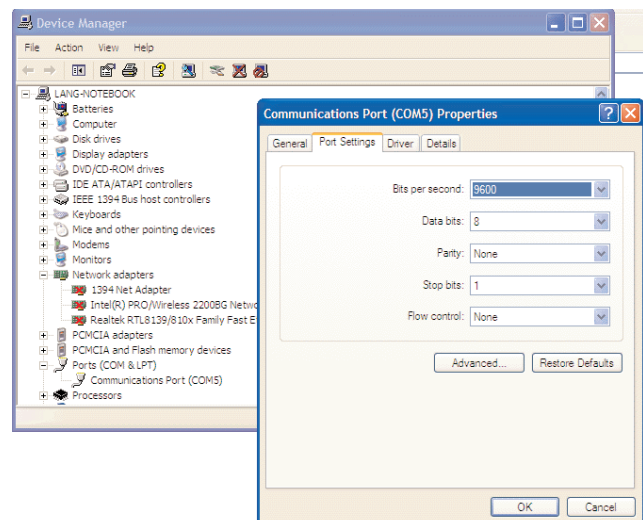

Fig.7. Device Manager view of installed device
The second pipe uses bulk data transfers and is for host-to-device data transfers (03) and has a maximum packet size of 64 bytes. The third pipe uses bulk data transfers and is for device-to-host data transfers (83) and has a maximum packet size of 64 bytes. We can also look at the USB device using the XP device manager as shown in Fig.7.